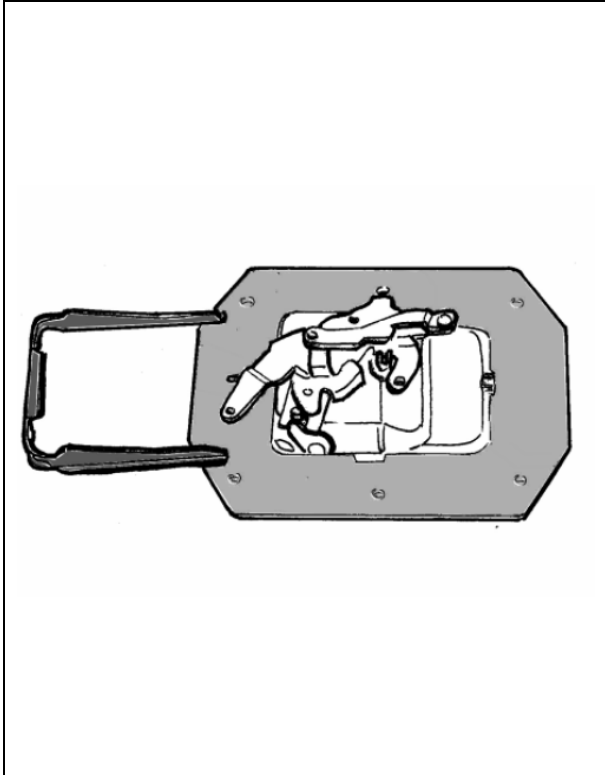

Figure 5-112. LH Door Accessories Assembly - Assembly of External Door Handle (3 of 6).
5. Assemble the OEM external door handle into the door handle adaptor plate as shown in Figure 5-112.